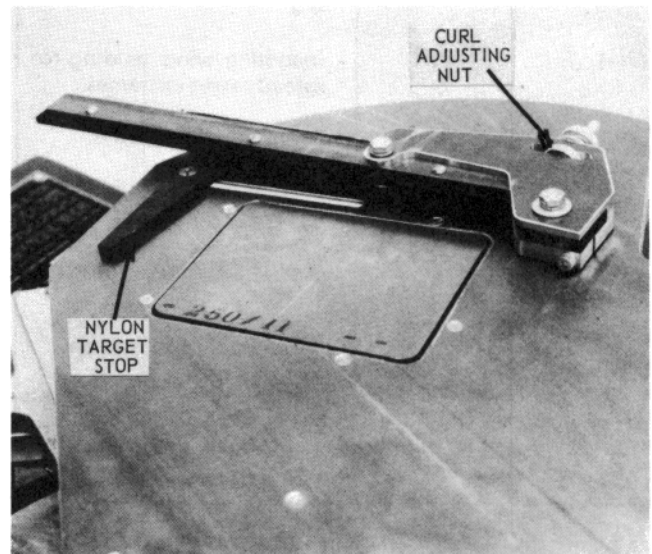

Figure 26 — Target Stop Adjustment
- 7.9 If the left target throws higher than the right, move the nylon target stop towards the targets. If the left target throws low, move the stop away from the targets until even height is obtained (see Figure 26). However, if the trap is not mounted level, one of the targets will always be thrown high and no adjustment will correct this.
- 7.10 If the left target throws higher than the right target move the throwing arm counterclockwise by turning the curl adjusting nut (see Figure 26). This will raise the right target and lower the left target at the same time. Continue to adjust until the targets are thrown at the same height.